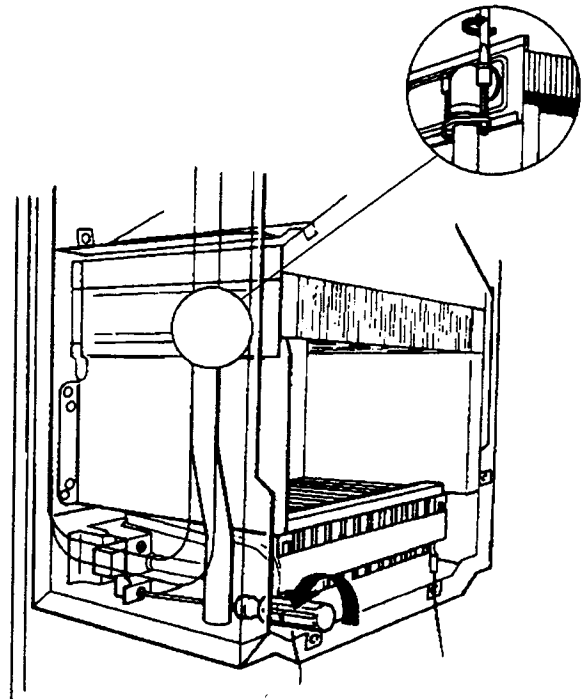

Fig. 28
Part No 5356 Refer to fig. 28.
- 8.8.8 Disconnect upper flanges by removing 2 screws on each flange (fig.28).